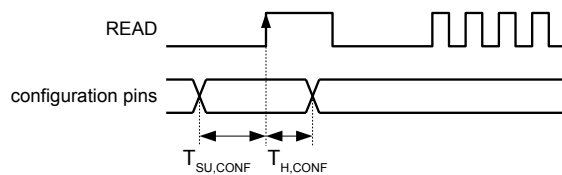

Figure 7: Status change of the configuration during runtime
- The configuration pins can be changed during runtime. Their status is read with the rising edge of the READ signal (Figure 7):